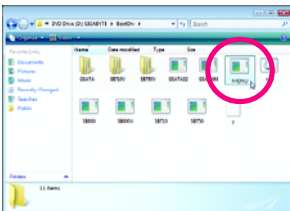
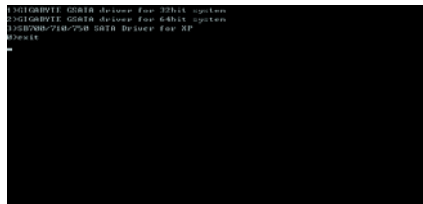

Figure 3
Figure 4
- 2: From your optical drive folder, double click the Menu.exe file in the BootDrv folder (Figure 3). A Command Prompt window will open similar to that in Figure 4.
- 3: Insert the blank formatted disk. Select the controller driver by pressing the corresponding letter from the menu. For example, from the menu in Figure 4,